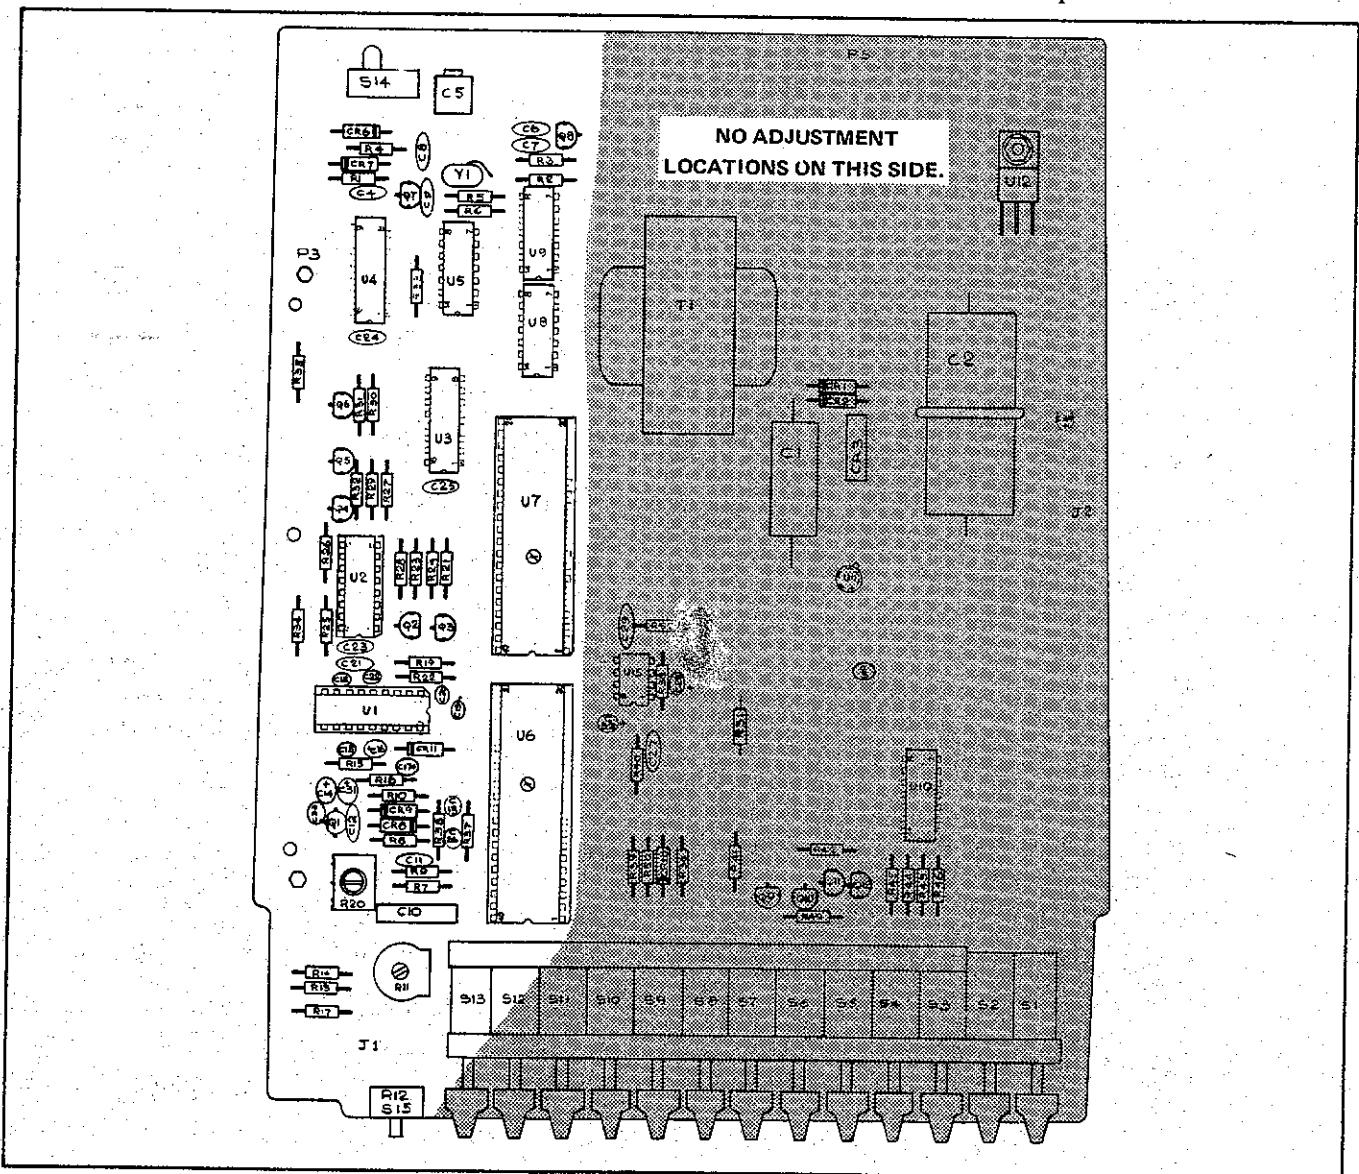

Figure 4-1. Main PCB (Top View)
6. Reduce the input level until the display becomes unstable and then try to adjust R11 (internal trigger level, see Figure 4-1) for the reference reading as noted in step-4.
4. While observing the display adjust the time base oscillator control (C5) through the rear panel, see Figure 4-1, to obtain a reading of overflow 000000 ± 5 .